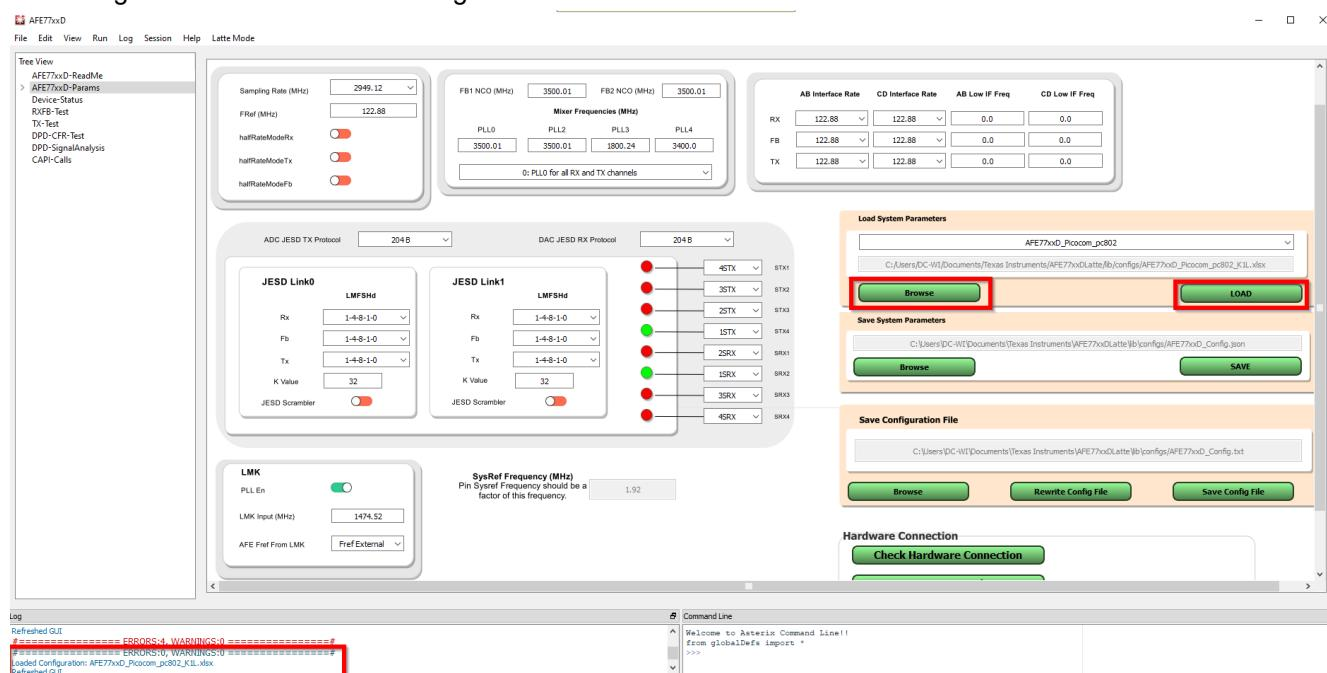

Figure 3-10. Main Window: GUI Mode
3. Click on “Browse” under “Load System Parameters” and select the “AFE77xxD_Picocom_pc802_K1L.xlsx” config file under “\Documents\Texas Instruments\AFE77xxDLatte\lib\configs”. After selecting the file, click “LOAD”, and the screen should look like **Figure 3-10**. You should also see a message saying that the configuration was loaded in the log window.